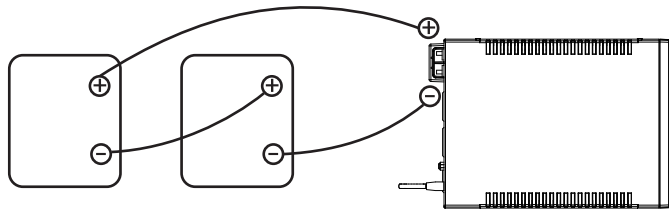

Fig. 3
2) Double Battery Connection for 2400 VA Double Battery 24 Volt (Refer to Fig 3):